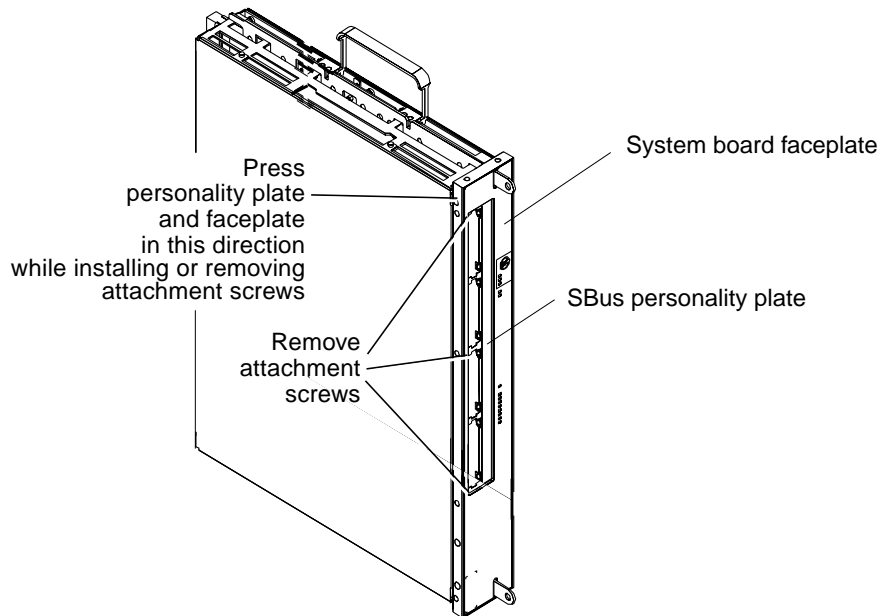

FIGURE 3 SBus Personality Plate Removal
1. Press the personality plate against the backside of the system board faceplate to relieve the stress on the screws and remove the three screws securing the personality plate (FIGURE 3).